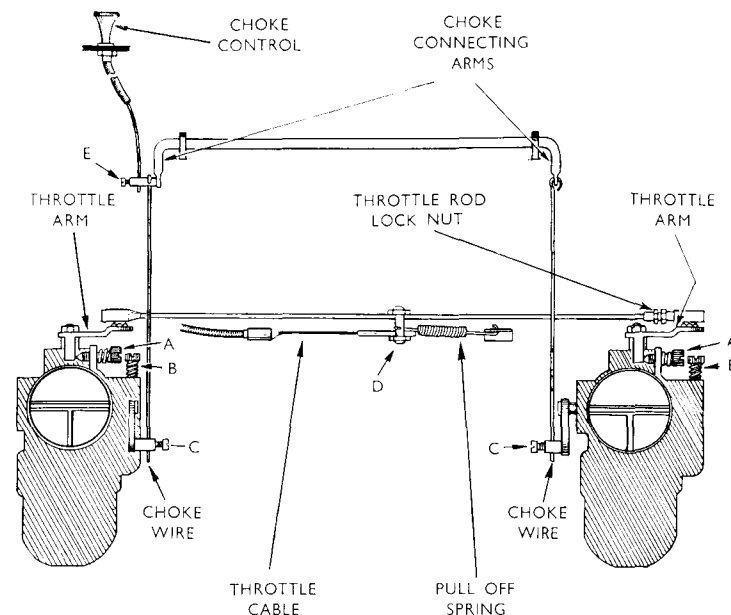

Figure 18 CARBURETTOR CONTROLS
Two Zenith 30 VM5 carburettors are fitted. All adjustments on these are made at the time of manufacture, other than the idling adjustment. After the first 500 miles, when the engine begins to lose its initial stiffness it may tend to idle at too fast a speed. This may be adjusted by means of the throttle stop screw A (see Fig. 18) and the air regulating screw B on each carburettor, the latter richens the mixture when turned clockwise and weakens it when turned anti-clockwise.
1. Remove pull off spring. (Fig. 18).
2. Release locknut (D) and withdraw accelerator cable.
4. Turn out throttle stop screws (A) until throttle arms are in the fully closed position.
5. Now holding throttle arms in the closed position turn adjusting screws (A) until they just contact the arms and then turn a further full turn. This ensures that both throttle plates are open exactly the same amount.
6. Again ensuring that the throttle arms are resting on screws (A) retighten the throttle rod nut thereby securing the throttle rod at its correct length.
1. Slacken off screws C (Fig. 18), allowing choke wires to move freely in the strangler flap levers.